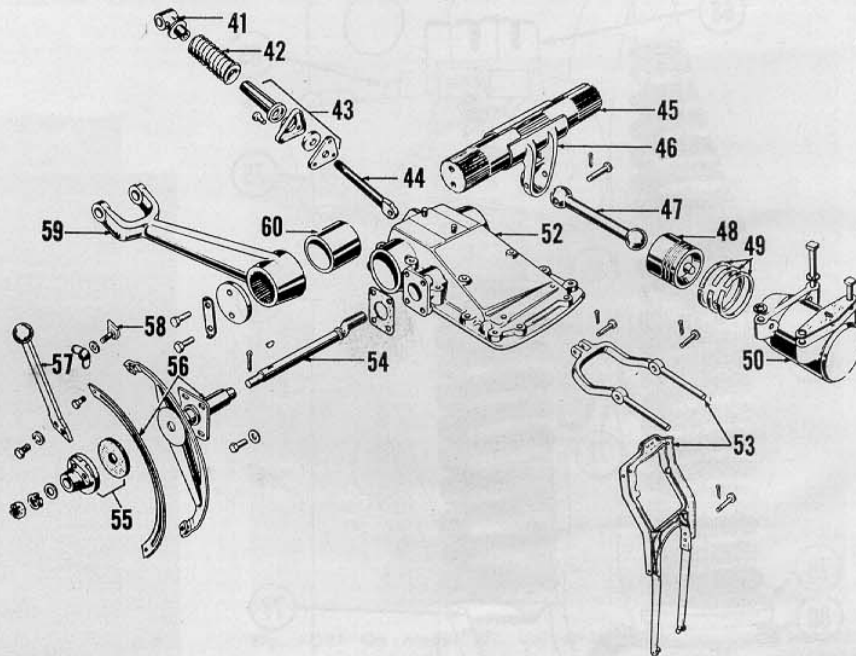

Fig. FO85—Exploded view 2N-9N hydraulic lift cover assembly.
**106. DISASSEMBLE AND OVERHAUL.** Procedure for disassembly of the lift cover assembly is self evident by an examination of the unit and reference to Fig. FO85. The general order of disassembly is the ram cylinder (50), control spring (42) lift control fork and spring control fork (53). Remove cap screws retaining one lift arm (59) to lift shaft (45); then bump end of lift shaft which will remove lift shaft ram arm (46) and one lift shaft bushing (60). Push other bushing from housing. Remove hand control quadrant (56) and attached parts.